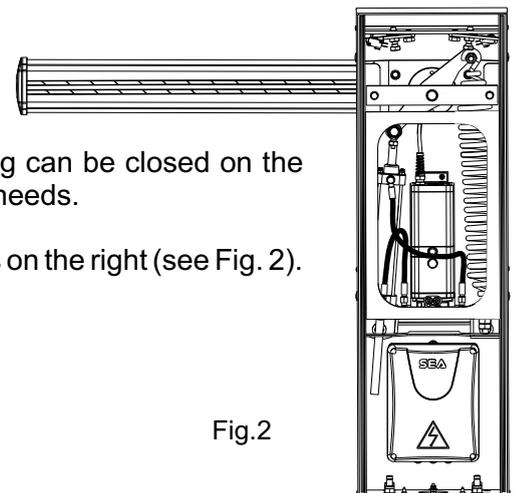

Fig.2
e.g. if the spring is on the right-hand side, the guard opens on the right (see Fig. 2).
Barrier with opening on the right (Fig. 2)